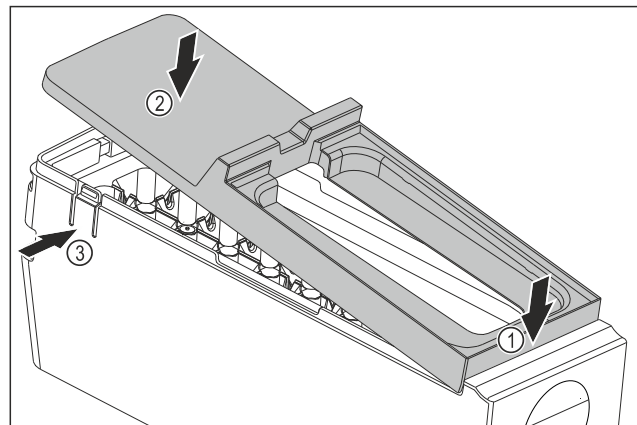

Fig. 148
- ▶ Installing the EasyTwist-Ice body cover: Place the cover on the front. Fig. 148 (1)
- ▶ Lower the cover at the rear. Fig. 148 (2)
- ▷ The cover locks into both tabs Fig. 148 (3) audibly.